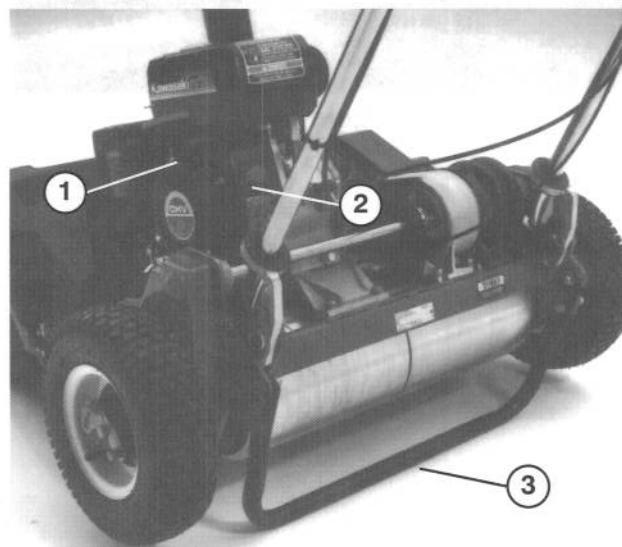

Figure 19
Recoil Starter (Fig. 19) - Pull recoil starter handle to start engine.
On/Off Switch (Fig. 19) - Located on rear of engine. Move switch to ON position to start engine and Off to stop engine.
Kick Stand (Optional) (Fig. 19) - Mounted to rear of machine, kickstand is used to raise rear of machine for installation or removal of transport wheels.
3. Move ON / OFF switch (Fig. 19) to ON position.